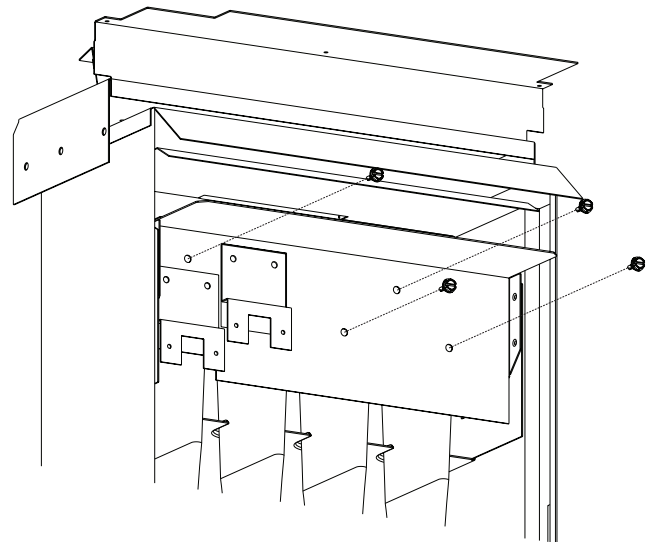

Figure 4
6. Vent safety switch bracket can be secured by two methods: **See Figure 4.**